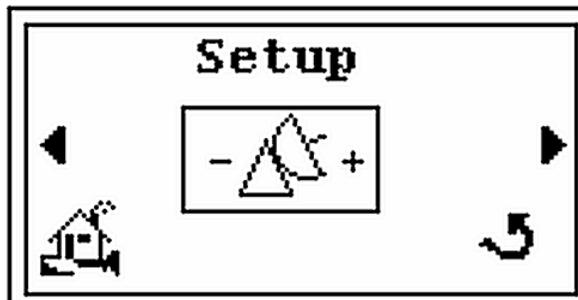

Figure 2-35 Setup Screen
3. Press the  and the *Setup* screen appears (Figure 2-35).